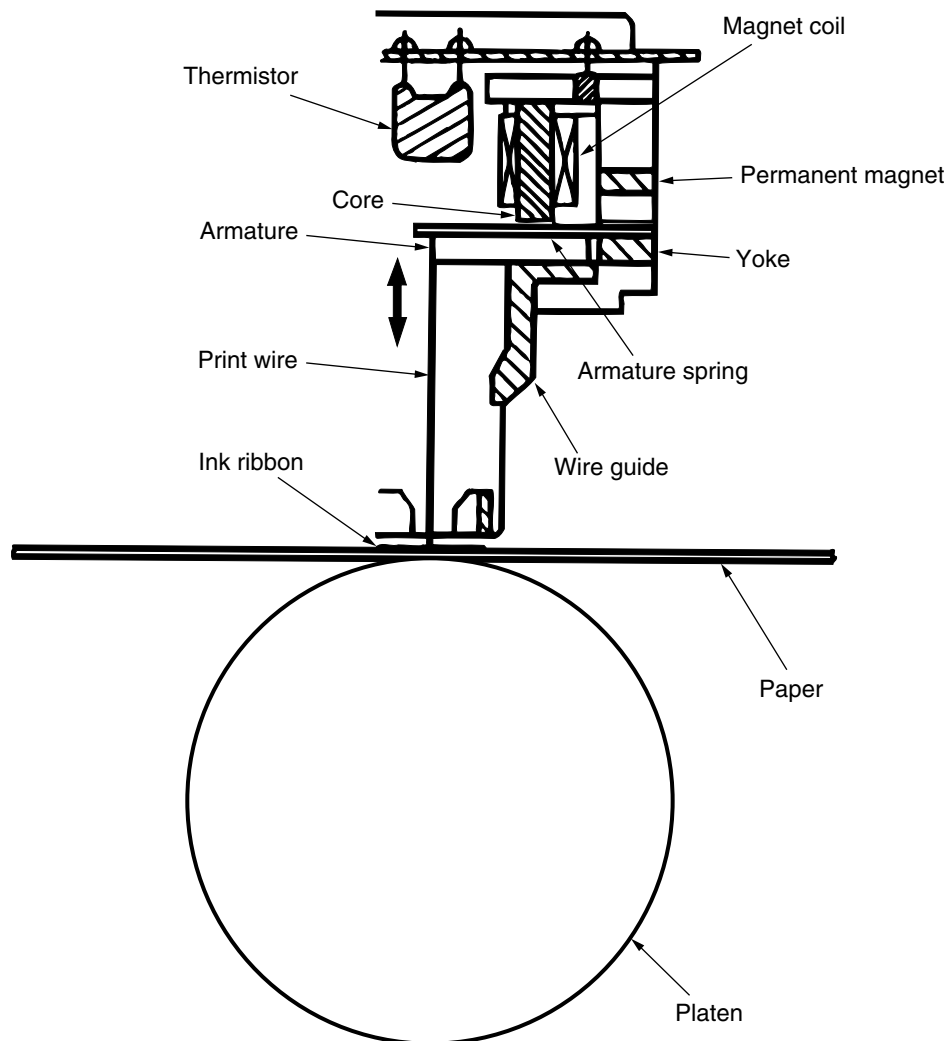

Figure 12-4
1) Print head operation (See Figure 12-4)